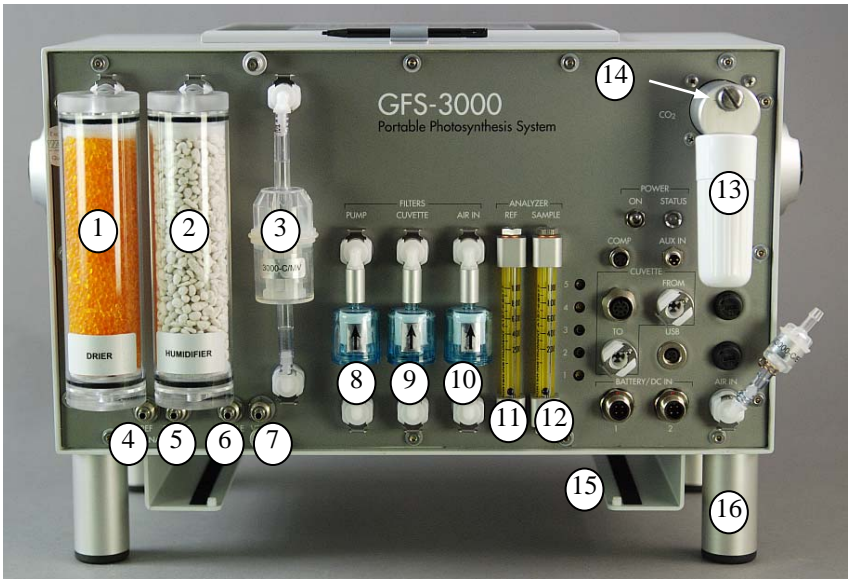

Fig. 2: Components and connectors at the front side
7. 4 tube fitting nuts belonging to the pneumatic connectors 4, 5, 6, 7 in Fig. 2.